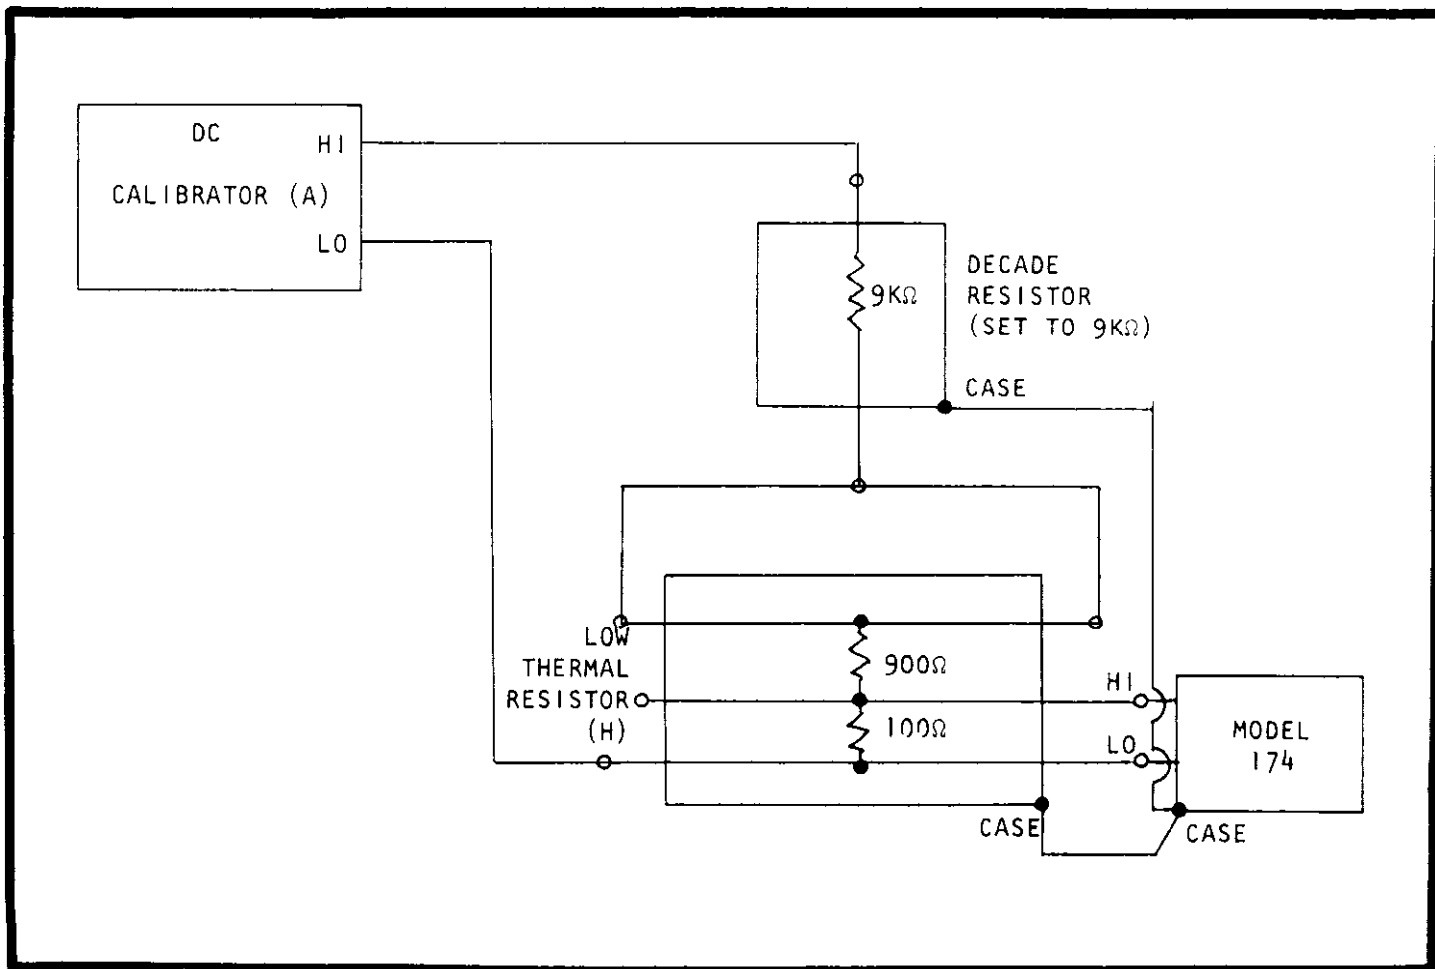

FIGURE 34. Test Circuit For 30 mV DC Accuracy Check.
- b) Connect the DC Calibrator (A), 9KΩ Decade Resistor (D), and Low-Thermal Resistor (H) as shown in Figure 34.